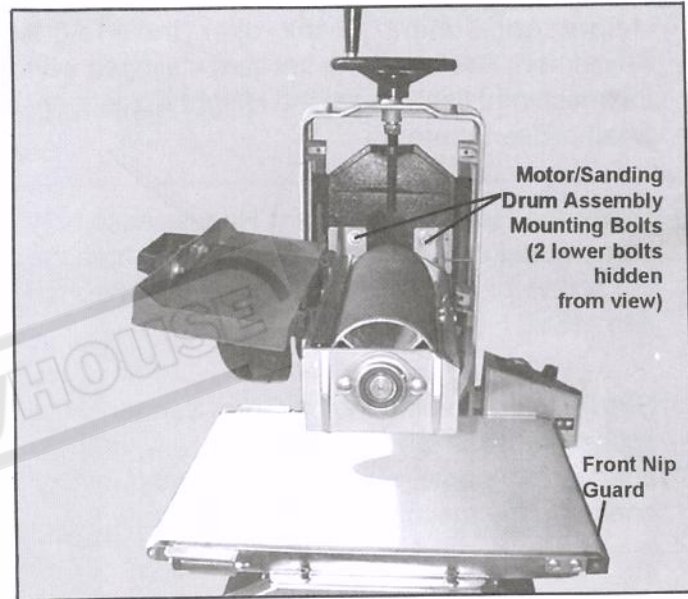

Figure 8
11. **STOP THE MACHINE** and recheck the motor/drum mounting bolts and feed rollers for tightness after about 50 hours of operation. (See Figure 8.)
3. **Loose Motor/Sanding Drum Assembly Mounting Bolts.** (See Figure 8.) Check the tightness of the four (4) bolts, 2 upper and 2 lower, and tighten as needed.